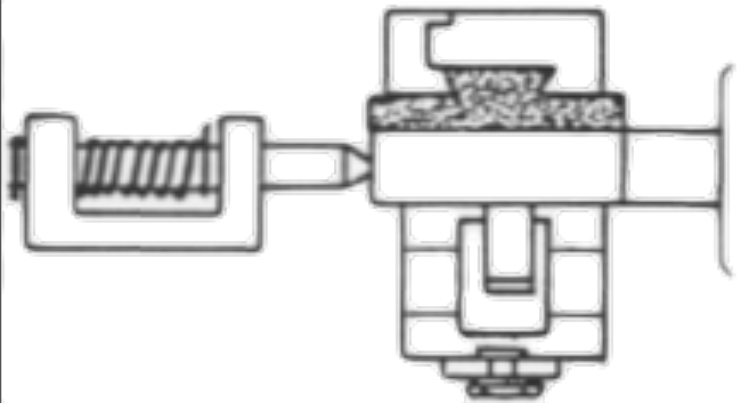

Figure 38
2. Position the center support to the material with a slight amount of pressure on the spring. There must be enough compression left on the spring to allow for the balance of end slide travel (Figure 38).